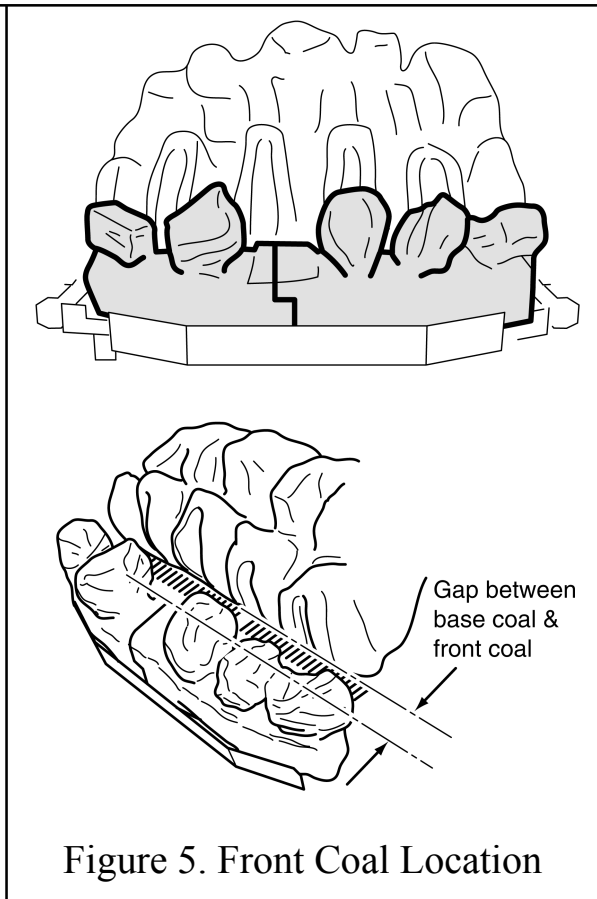

Figure 5. Front Coal Location
2. Place the left-hand ceramic front coal in position in front of the base coal (See figure 5).
3. Place the right hand ceramic front coal in position in front of the base coal. This should overlap the left-hand coal. Push the two sides together to minimise the gap. (See figure 5).
4. There will be a gap between the rear of the front coals and the front of the base coal. (See figure 5).